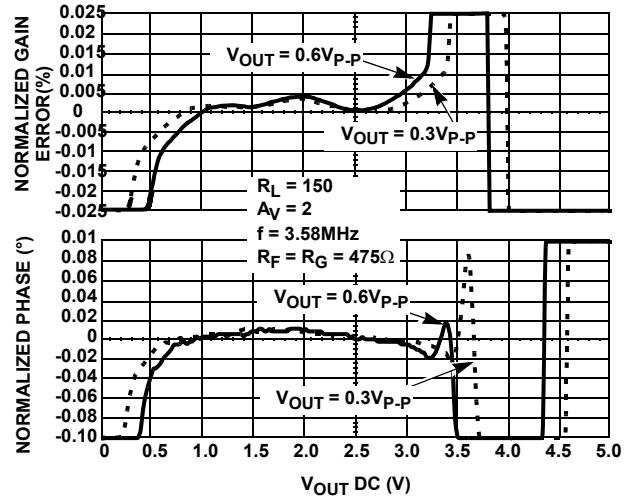
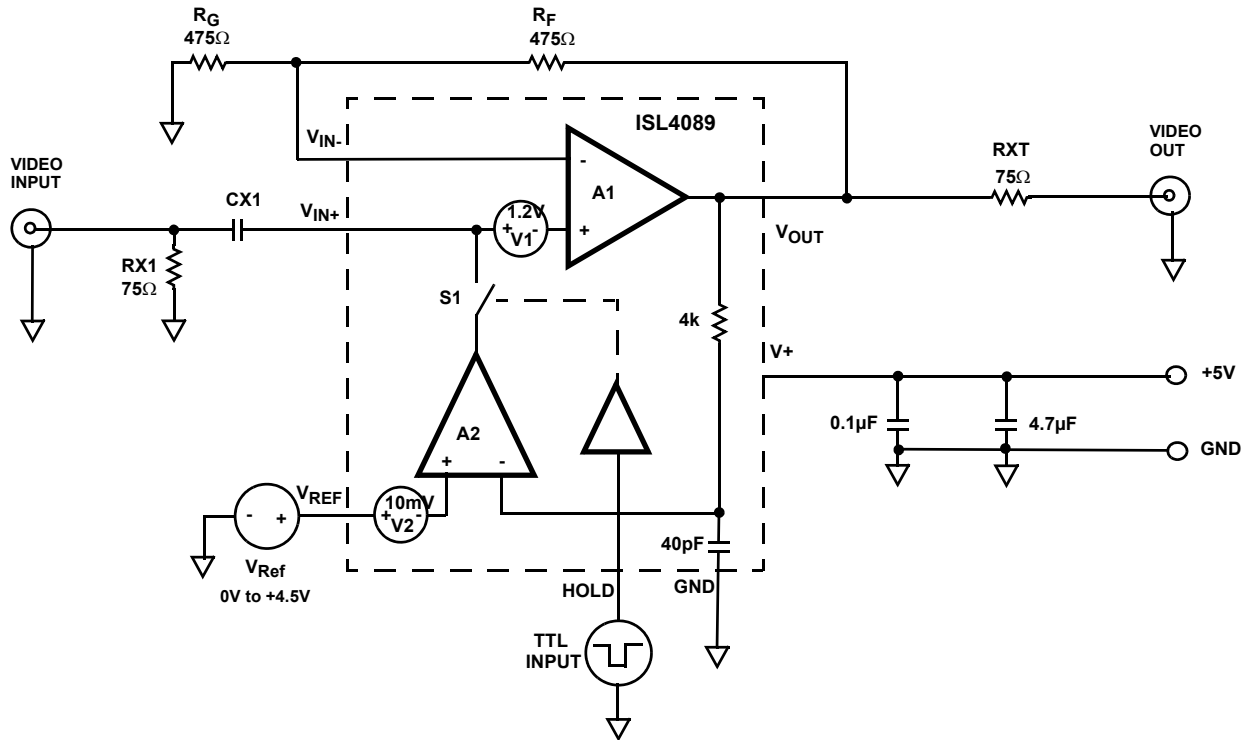

FIGURE 6. DIFFERENTIAL GAIN - PHASE
FIGURE 13. BASIC +5V APPLICATION CIRCUIT
**Video Amplifier Operation (Figure 13)**
**DC-Restore Amplifier (Figure 13)**
Implementing DC-restore and amplifying composite video using a single +5V supply amplifier, requires attention to the performance of the amplifier over the minimum to maximum range of output voltage swing. The differential gain - phase plot in Figure 6 shows the amplifier accuracy operating from a single +5V supply, driving a 300mVP-P and a 600mVP-P signal into a 150Ω load. Over the output DC voltage range of 0.5V to 3.25V, differential gain and phase are less than 0.05% and 0.05° respectively and defines the optimum output voltage range of the ISL4089. Figure 6 also shows that as the signal level increases, a corresponding decrease in the output DC level (min/max voltage swing) can be expected. The  $V_{REF}$  input enables the output DC voltage level to be optimally programmed within the min/max voltage range, according to Equation 2. The values in Figure 6 take into account the additional amplifier overhead (300mVP-P and 600mVP-P) needed by the video signal. Although the AC performance degrades below ~0.5V, the ISL4089 maintains DC accuracy down to 10mV.
A typical single supply application circuit using the EL1883 sync separator to generate the DC-restore hold command, is shown in Figure 13. The ISL4089 is configured for a gain of 2, and 75Ω input and output terminations are used for cable driving; providing an end to end gain of 1. DC-restore is performed during sync tip using the composite sync output of the EL1883, which clamps the -300mV input sync tip level to 0VDC at the ISL4089 output (Figure 15 - lower trace). Clamping sync tip to 0VDC forces the black level, color burst and active video to the +300mV level at the 75Ω load in the terminal equipment, and to +600mV at the ISL4089 output pin. The +600mV DC offset is safely within the lower linear range of the ISL4089 output (Figure 6 - Differential Gain - Phase) and the 2V maximum video amplitude at the output is safely within the upper limit. In applications where the sync tip level can't be guaranteed, positioning the active video within the linear range can be accomplished using the back porch clamp output of the EL1883 and supplying +1V to the  $V_{REF}$  input. This has the effect of clamping the back porch to the +1V  $V_{REF}$  level at the output while enabling the negative sync tip level to pass through to the output.